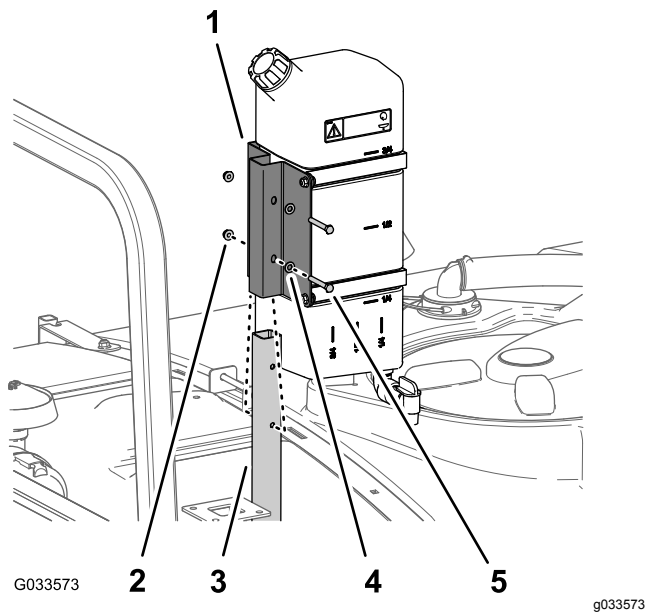

Figure 47
- 1. Assemble the freshwater tank and mount onto the support tube with the 2 bolts (5/16 x 2-1/4 inch) and 2 flange locknuts (5/16 inch) as shown in Figure 47.